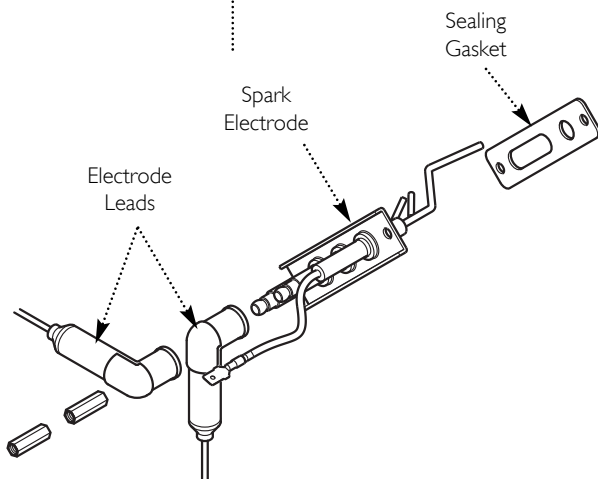

Fig. 76
14.2 Electrode Assembly (Fig. 76)